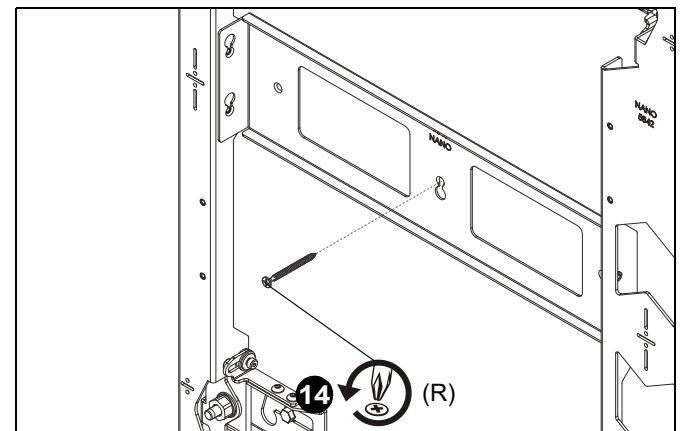

Figure 14
14. Remove #8 x 2" Phillips drywall screw (R) from wall after mount has been leveled. (See Figure 14)